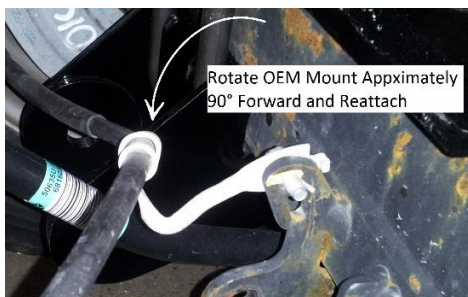

Figure 9: Rotated OEM Pkg Brake Cable Mount
1. Relocate Passenger parking brake cable mounted in front of axle as shown in Figure 9.